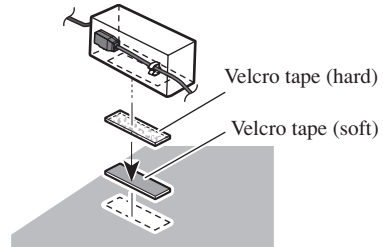

Fig. 9
- When installing the optical cable connection box with the velcro tape (Fig. 9)